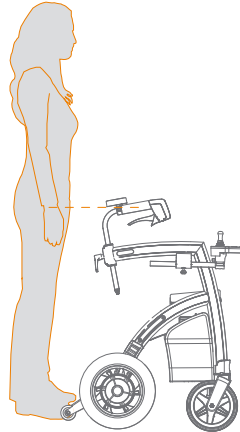

Figure 21: Determine the correct height.
- a. To determine the correct height, stand between the Rollz Motion Electric handles with your arms hanging near the body. The handles should be at the same height as your wrists (**Figure 21**).